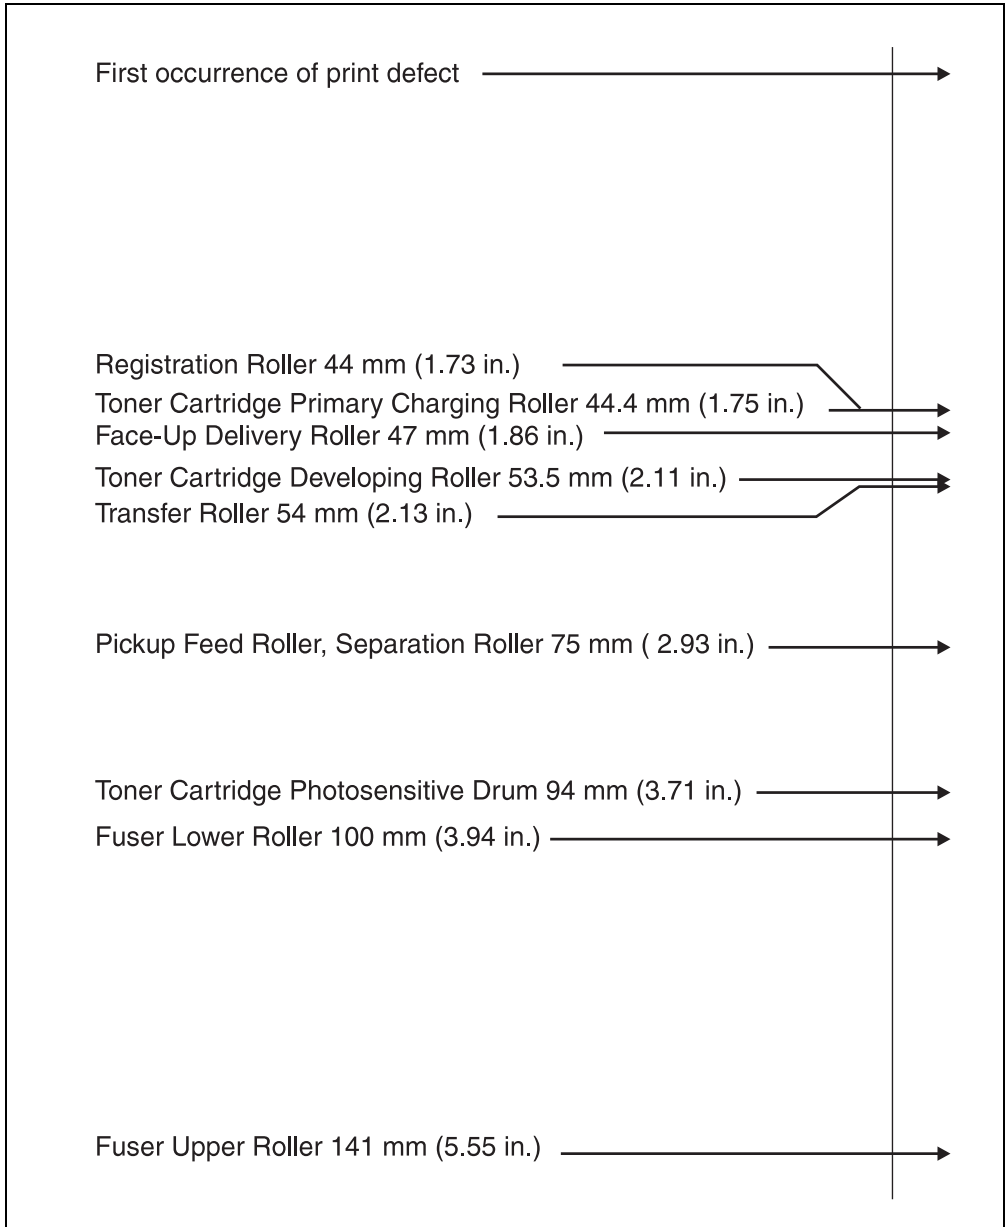

Figure 7-15 Repetitive Defect Ruler
1. Toner cartridge is damaged. If the defect repeats at any of the following intervals and in the direction of paper movement, it is associated with a component inside the toner cartridge. See figure 7-15 on page 491.	Inspect the drum for scratches or damage. Replace the toner cartridge. Use the Repetitive Defect Ruler, figure 7-15 on page 491.
Repetitive print defects are usually associated with a specific roller within the printer or the toner cartridge. Use figure 7-15 to isolate the cause of repetitive print defects. Align the first occurrence of the defect with the top of the “ruler” and measure to the next occurrence of the defect to determine the roller in question. When you are certain that your defect pattern matches the pattern of the ruler, replace the indicated roller.